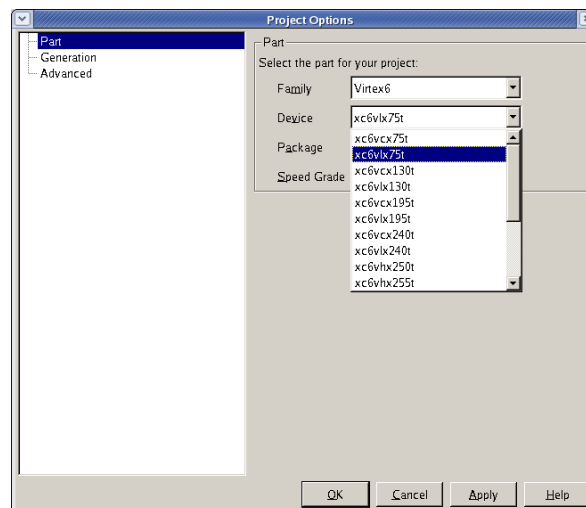

Figure 3-3: Target Architecture Setting
4. Select an appropriate package from the Package list. This example uses the XC6VLX75T device (see Figure 3-3).